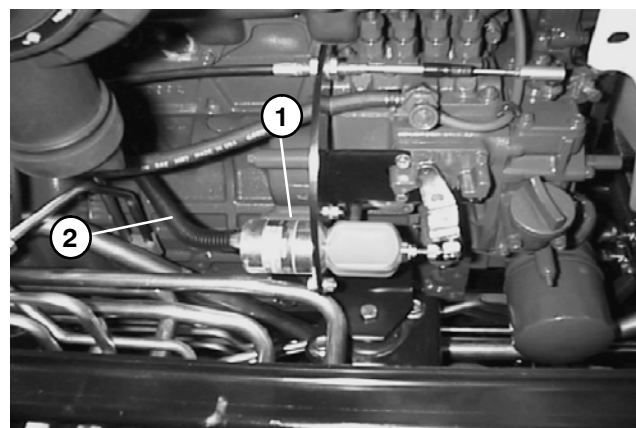

Figure 13
B. The engine run solenoid (Fig. 13).
- B. The engine run solenoid (Fig. 13).